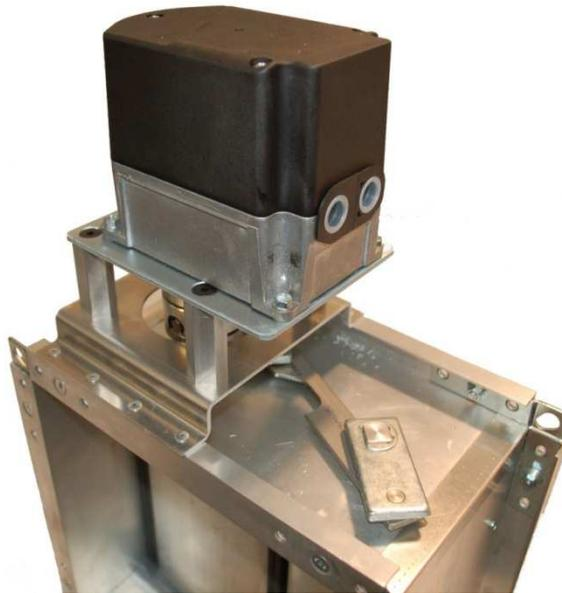

Figure 14: Completed Bracket Assembly
9. Using the 8mm socket and ratchet extension, mount the actuator on top of the bracket assembly with the four M5 x 12mm thread-forming screws. Finally, tighten the clamp screw on the coupling with approximately 150 in-lb of torque. The completed bracket assembly should look as shown in Figure 14.